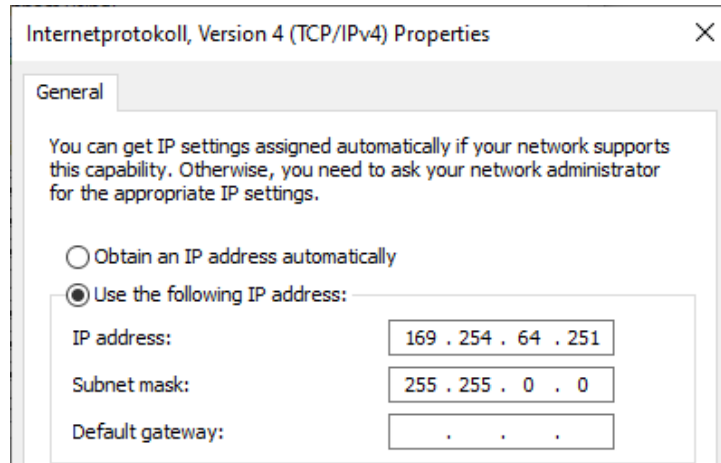

Figure 11: Settings of the network adapter (TCP/IPv4)
- In the newly opened window search for Internet Protocol version 4 (TCP / IPv4) and open it with a double-click (see Figure 11)